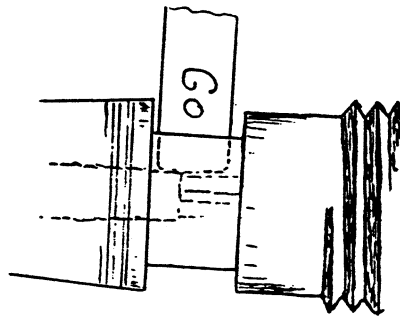

Fig. 65
- Step 3. Having passed Step No. 2, insert "Go" end of the gauge into the collector weir vent slot. Figure 65. If the "Go" gauge fits the slot loosely, or with only a slight amount of drag (not enough to allow lifting the pen suspended from the gauge) the collector weir vent is within the minimum limit.